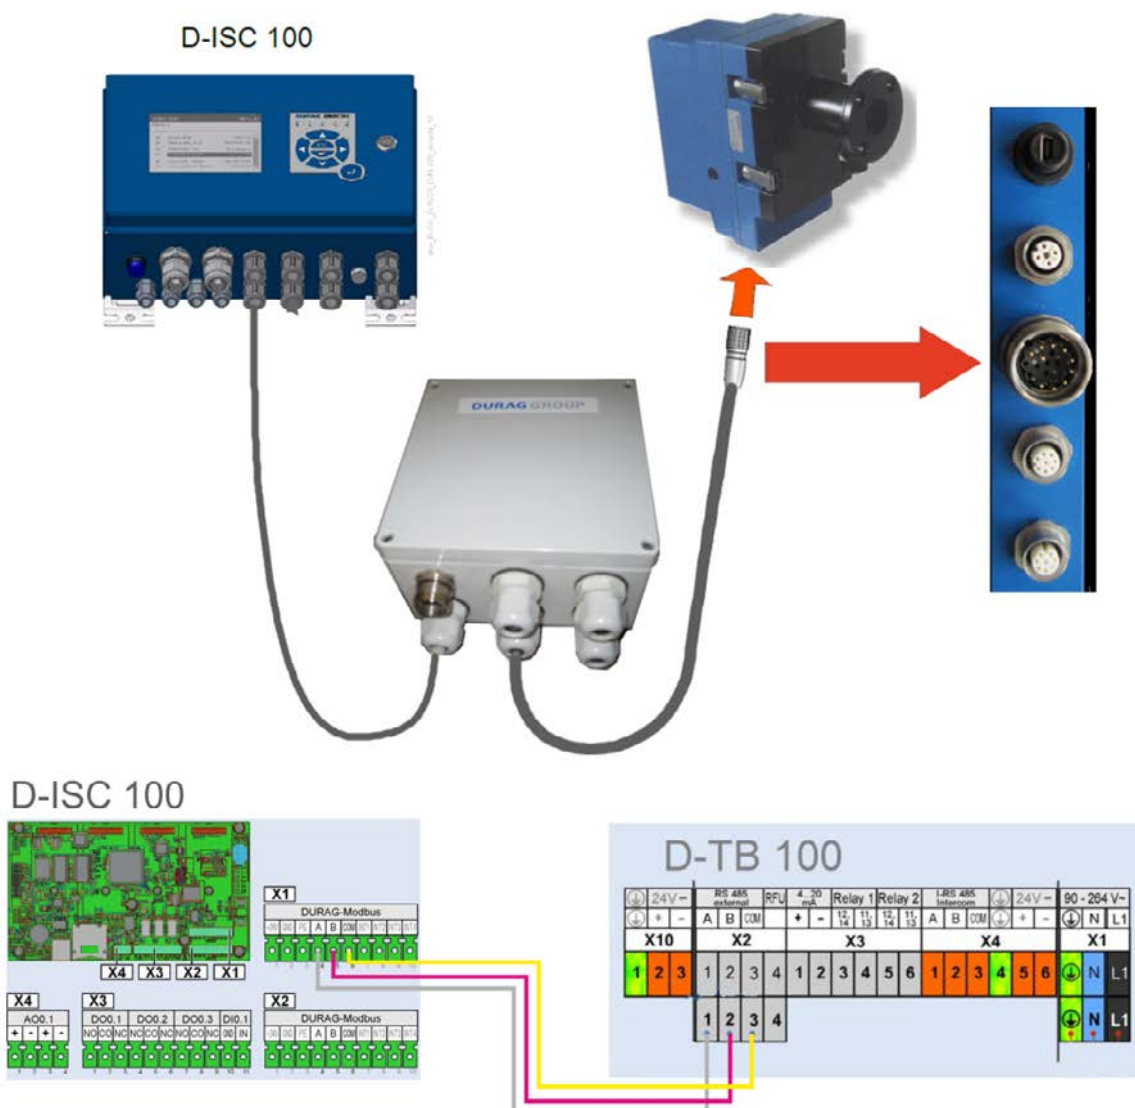

Fig. 5.30: Supplying the D-R 290 via a D-TB 100 and connection of a D-ISC 100 via DURAG Bus
- With the D-ISC 100 control unit at field node level and the power supply of the D-R 290 provided by a D-TB 100 (Fig. 5.30). In this configuration the control unit can be up to 1000 m from the device and also be used for operating other DURAG Bus devices.